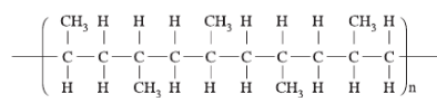

Figure 1 – small section of a polymer chain
1. Consider the small section of a polymer shown in fig. 1.
- a. This polymer starts to soften at temperatures around 260 °C , whilst the polymer shown in fig. 1 above softens at much lower temperatures.